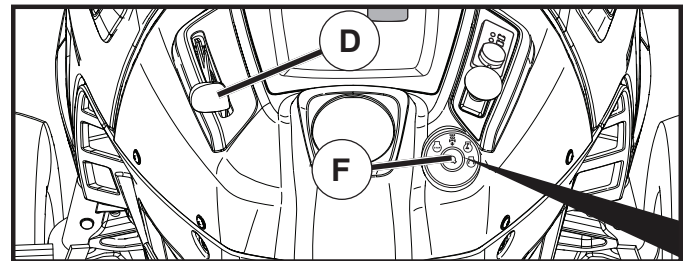

Fig. 22
TO USE THROTTLE CONTROL (D) (See Fig. 22)